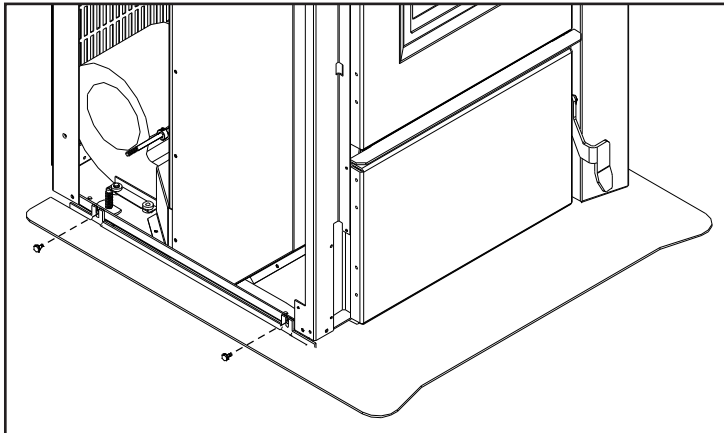

Figure 4: VF170 Hearth Shield Installation.
1. Remove the right and left hand cabinet sides. Partially back out the two (2) T-20 Torx screws on the back of the each panel and the two (2) located on the front inside edge below the louvers and ash shelf. Pull the panel forward then remove.
3. Secure the shield to the unit with two (2) screws on each side (see Figure 4).